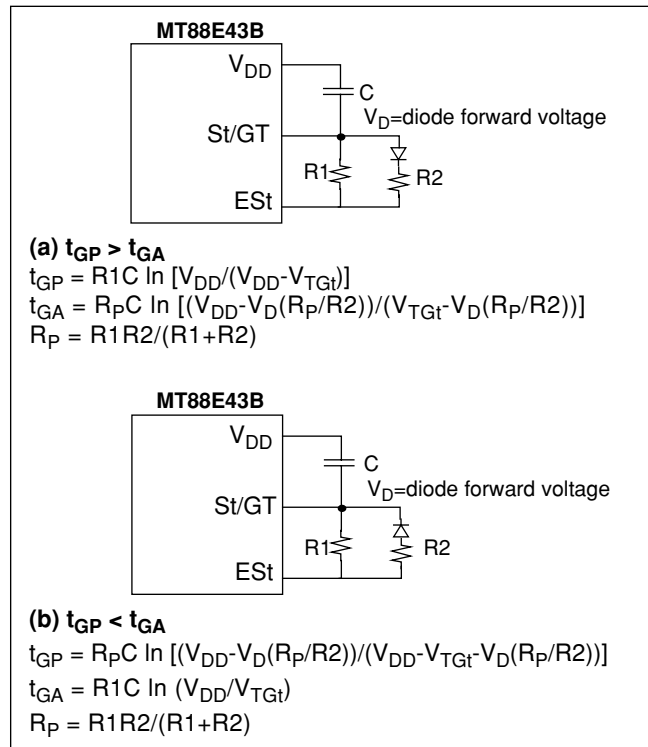
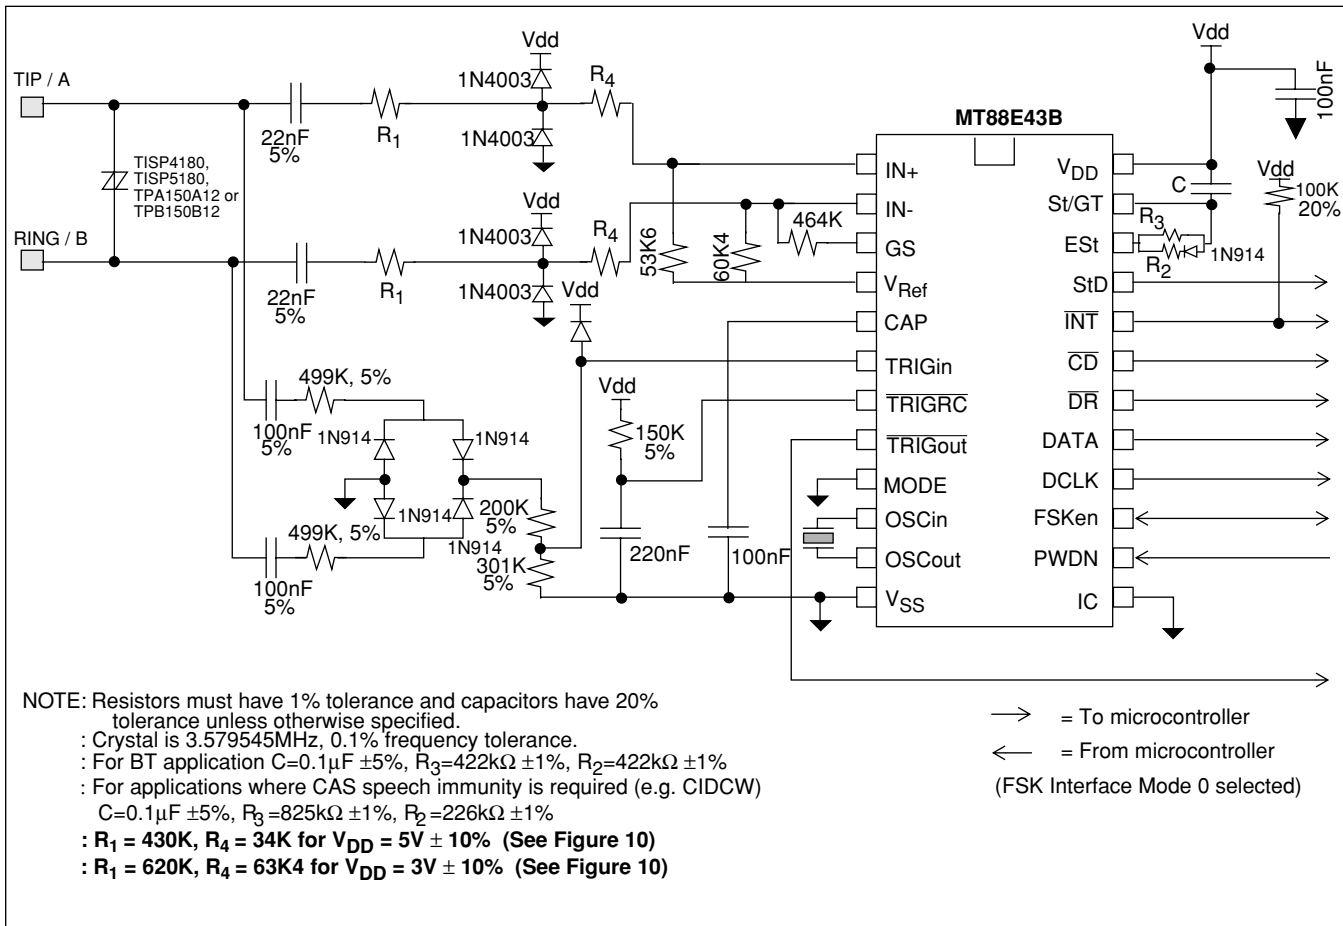
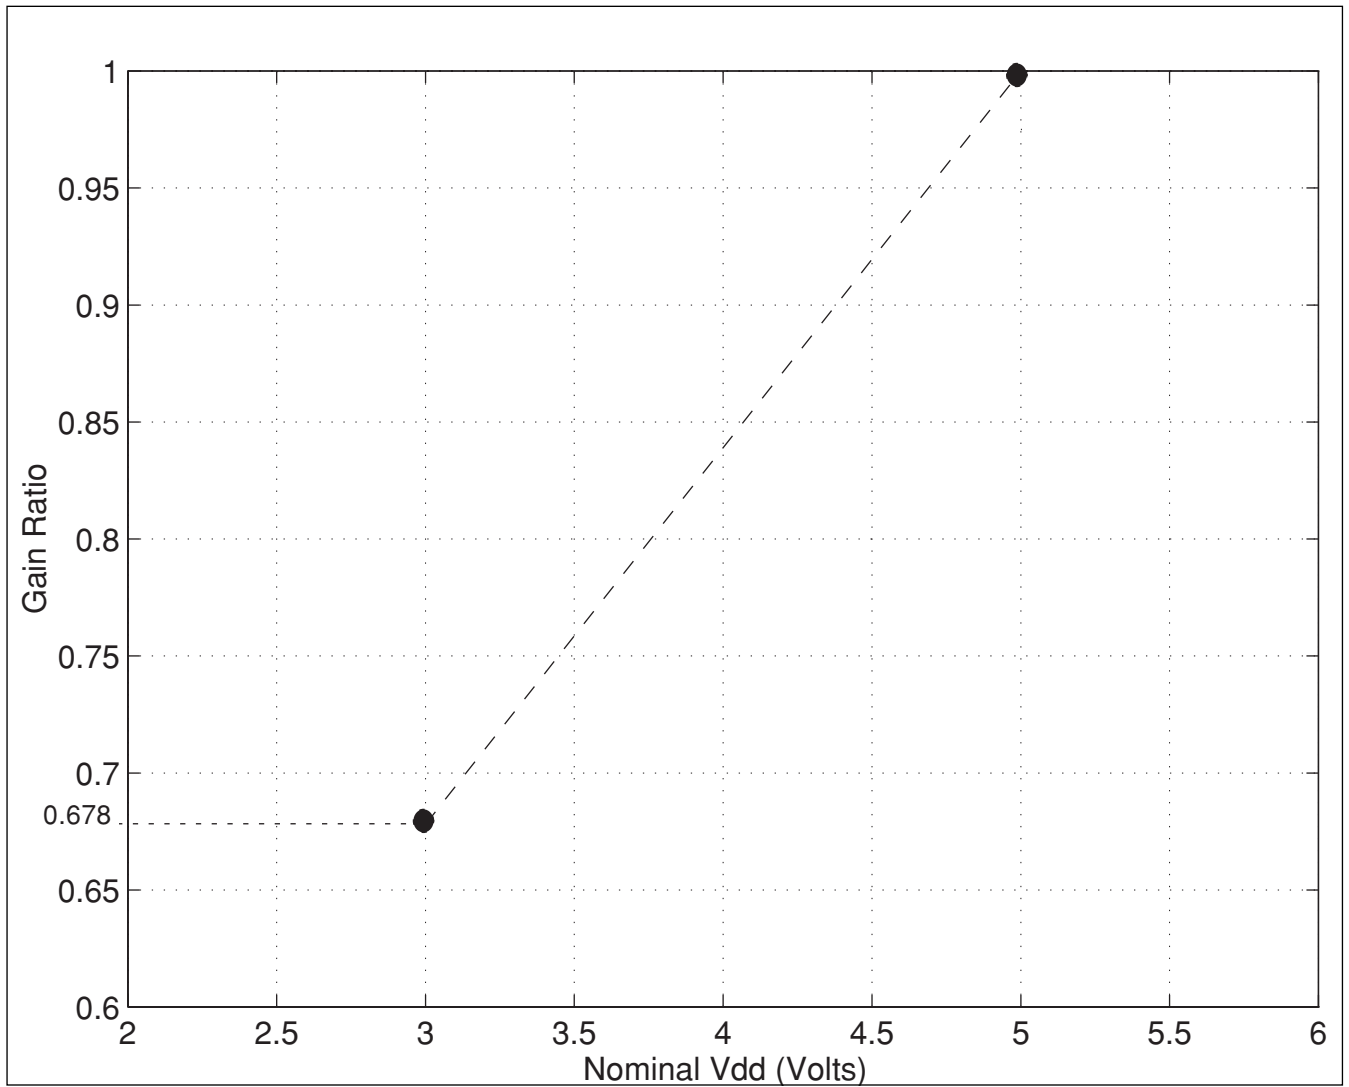

Figure 5 - Guard Time Circuits with Unequal Times
Figure 9 - Application Circuit
Figure 10: Gain Ratio as a function of Nominal Vdd
BT specifies that the idle state tone alert signal recognition time should not be less than 20ms when both tones are used for detection. That is, both tones must be detected together for at least 20ms before the signal can be declared valid. This requirement can be met by setting the t_{GP} (refer to Figure 5) to at least 20ms.
BT also specifies that the TE is required to apply a DC wetting pulse and an AC load 15-25ms after the end of the alerting signal. If $t_{ABS}=t_{DA}+t_{GA}$ is 15 to 25ms, the DC current wetting pulse and the AC load can both be applied at the falling edge of StD. The maximum t_{DA} is 8ms so t_{GA} should be 15-17ms. Therefore, t_{GP} must be greater than t_{GA} . Figure 5(a) shows a possible implementation. The values in Figures 9 and 11 ($R_2=R_3=422K$, $C=0.1\mu F$) will meet the BT timing requirements.
The circuits shown in Figures 9 and 11 are application circuits for the MT88E43B. As supply voltage (V_{DD}) is decreased, the threshold of the device's tone and FSK detectors will be reduced. Therefore, to meet the BT or Bellcore tone reject level requirements the gain of the input opamp should be reduced according to the graph in Figure 10. For example when V_{DD}=5V (+/- 10%), R₁ should equal 430kΩ and R₄ should equal 34kΩ; and if V_{DD}=3V (+/- 10%) R₁ should equal 620kΩ and R₄ should equal 63.4kΩ. Resistors R₁ and R₄ are shown in Figures 9 and 11.
The circuit shown in Figure 9 illustrates the use of the MT88E43B in a proprietary system that doesn't need to meet FCC, DOC, and UL approvals. It should be noted that if glitches on the Tip/Ring interface are of sufficient amplitude, the circuit will falsely detect these signals as ringing or line reversal.
Note: In the application circuits shown in Figures 9 and 11, the Gain Ratio of MT88E43B opamp is
- Tip/Ring signal level. Input opamp configured to 0dB gain at V_{DD}=5V±10%, -3.38dB gain at V_{DD}=3V±10%. (see Figure 10)